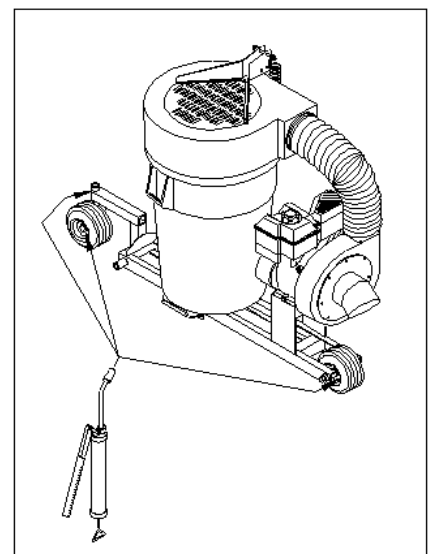

Fig. 17
17. Grease all zerk fittings. Read engine operating instructions and service engine before starting. **Fig. 17**